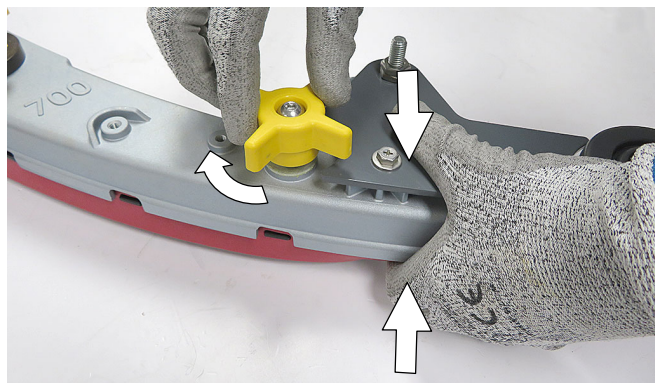

FIG. 139
5. Squeeze the squeegee frame and blade retainer together and re-tighten the star knobs (Figure 139).